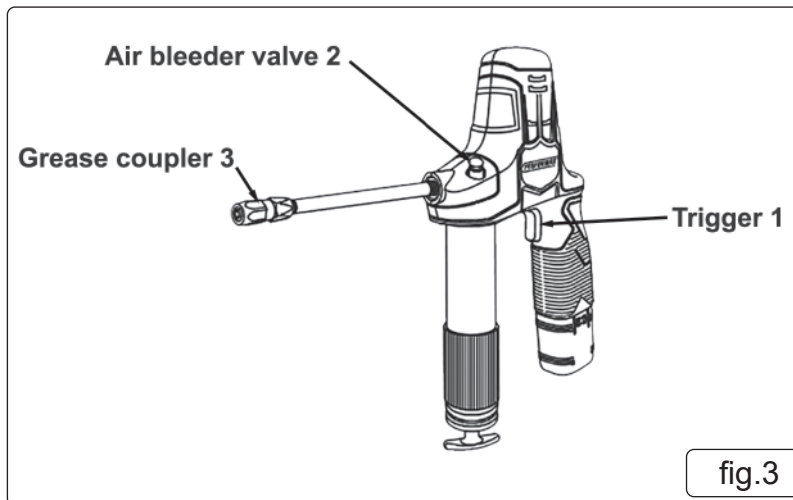

fig.3
4.8.2. To prime the grease gun pack grease into the cavity (where the grease tube screws into the gun) and operate the trigger (fig 3 - 1). This will induce the intake of grease into the gun assembly.
5.1. To operate the grease gun push the grease coupler (fig 3 - 3) onto the grease nipple and squeeze the trigger (fig 3 - 1) until the desired amount of grease has been delivered.
5.2.1. If you encounter air pockets during operation, or after a new cartridge (85g or 400g) has been installed, exert force on the follower rod, press the air bleeder valve (fig 3 - 2), and operate the trigger (fig 3 - 1) in short, sharp bursts until grease begins to flow from the grease couple (fig 3 - 3).